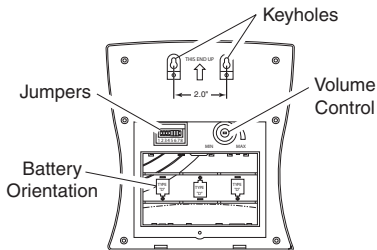

Figure 4
4. Install 3 type "D" batteries (not provided). Make sure batteries are oriented properly as shown in bottom of battery compartment (see Figure 4).
2. To mount with screws and hollow-wall fasteners, drill two pilot holes located 2" apart (see Figure 4) at desired height. Use provided mounting screws and wall anchors as needed. Leave approximately 1/8" gap between wall and mounting screw head.